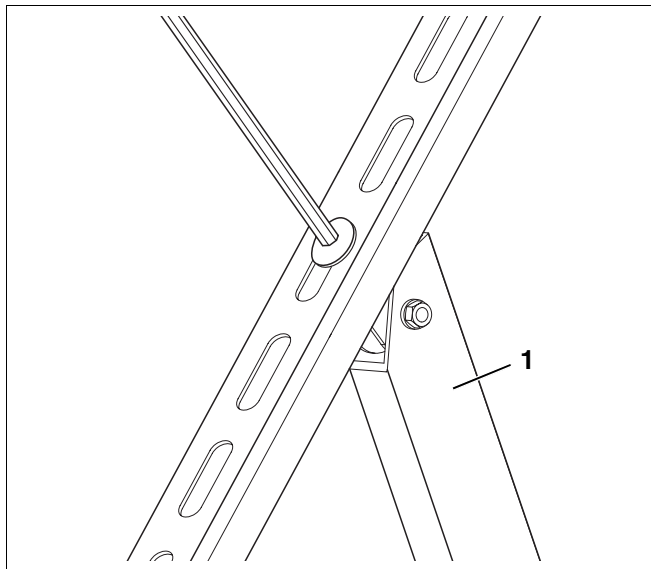
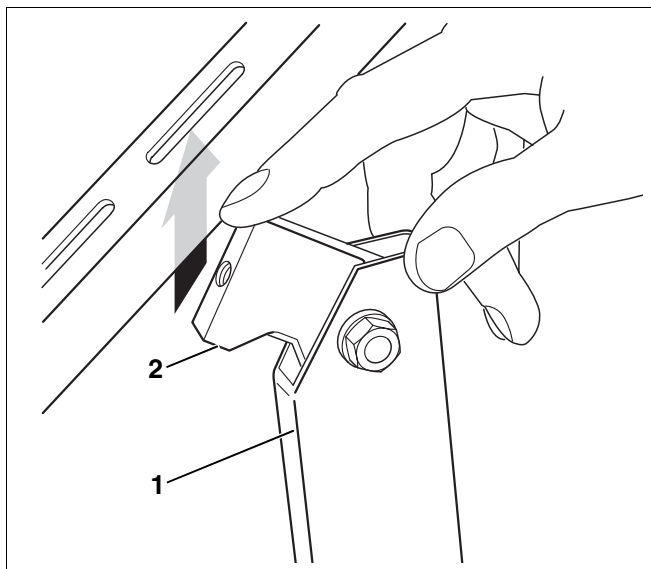

Fig. 12 Unscrewing the brace from the collector support
Fig. 13 Fitting the brace to the new slot position
- Remove the brace (Fig. 12, **Item 1**) with the head from the collector support (Fig. 13, **Item 2**) by unscrewing the pan-head screw.
- Position the brace (Fig. 13, **Item 1**) into the slot position you have determined.